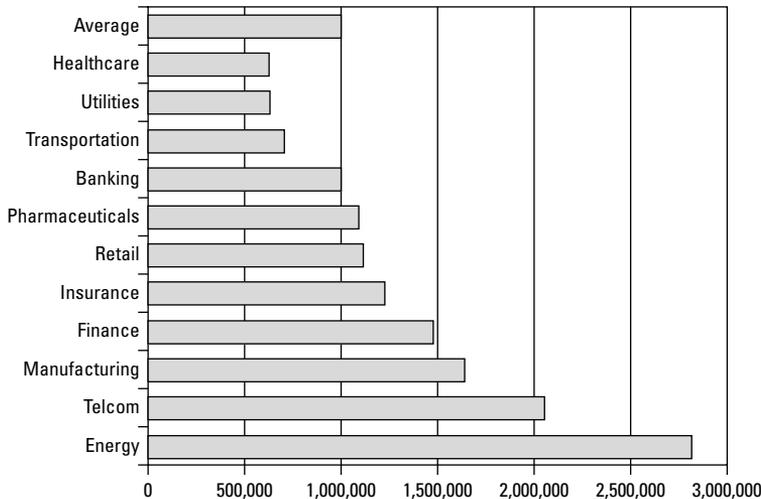

Figure 6-1:
Take a look at Figure 6-1 for an indication of what one hour of downtime costs by industry. This dollar amount should determine how much your company should spend on a disaster-recovery (DR) solution.
- ✓ **Budget:** Determine what you can afford to spend, based on how much time you can afford to be down. (Refer to Figure 6-1.) As a general rule, at least 1 percent of gross income is a good place to start.